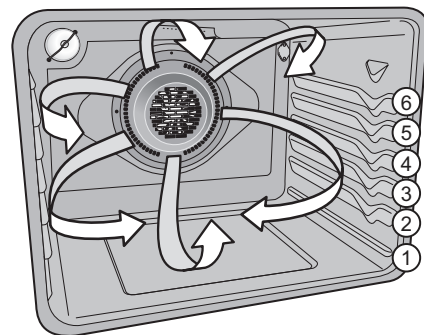

Figure 27: Oven rack positions
- Always place food in center of the oven on rack position 4 (Figure 27).